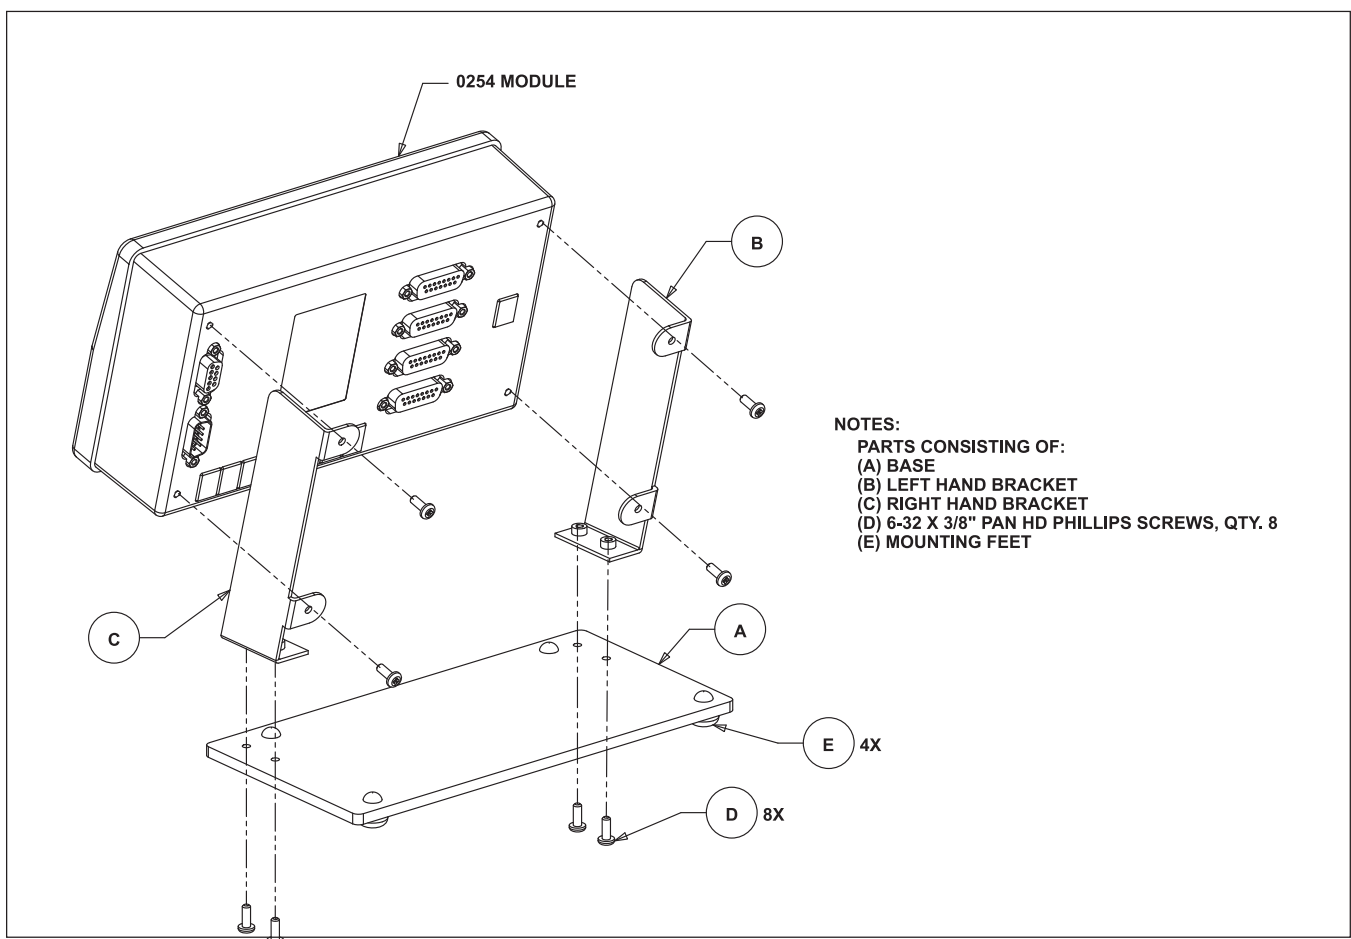

Figure 2-2 Table Top Stand Mount Installation
1. Attach the four rubber mounting feet to the base, as shown in Figure 2-2.